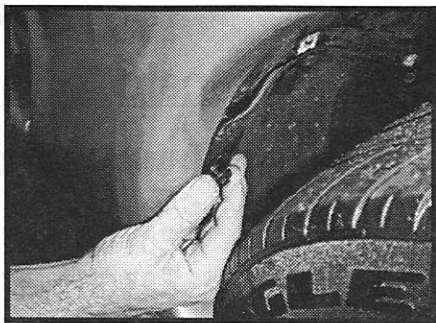

Figure 3
3. Remove ECU protective shroud (large plastic piece covering computer located inside passenger fenderwell) you must remove panel screw from the passenger wheel well (see Fig. 3). Now remove 2 screws on lower quarter panel, note one is located on the underside (see Fig. 4).